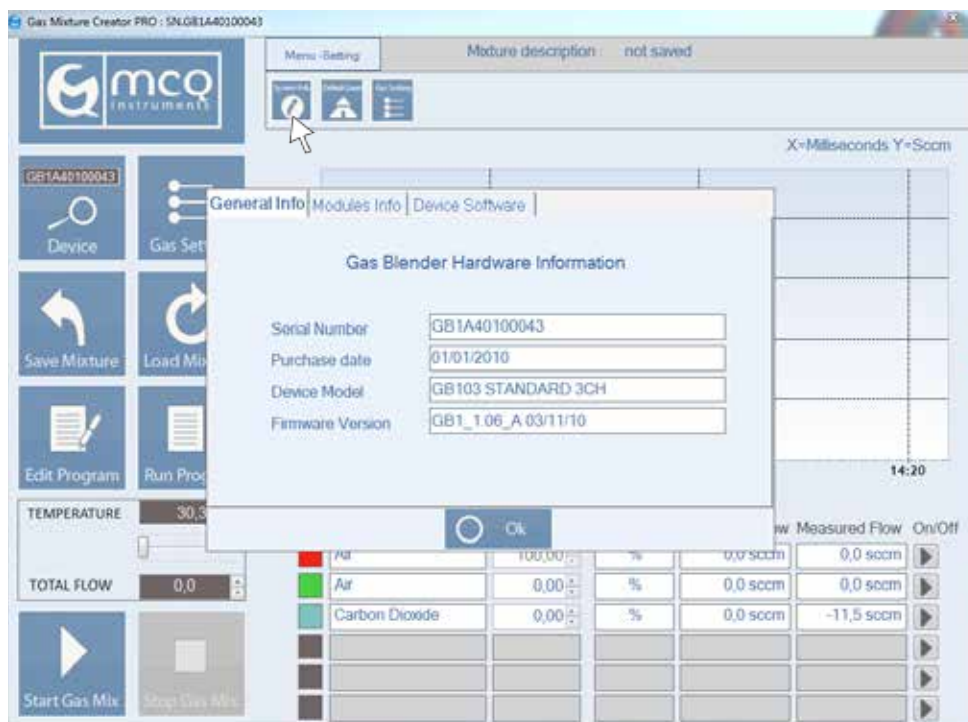

Fig. 29
8. Click on the **System Info** button (Fig. 29) to access the Gas Mixture Creator Info panel. The panel is divided in three sections: **General Info**, where basic hardware information about the instrument is provided; **Modules Info**, where basic hardware information and configuration settings of each module is provided; **Device Software**, where basic information about the software itself is provided.